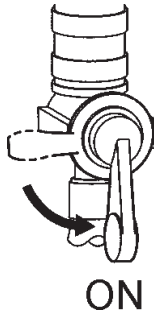

Figure 11. Engine Fuel Valve Lever (ON Position)
1. Place the engine **fuel valve lever** (Figure 11) in the "**ON**" position.